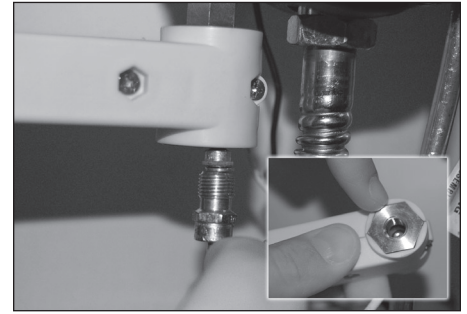

Figure 10
3. Install the thermocouple to the Power Cutout Module. **Figure 10**